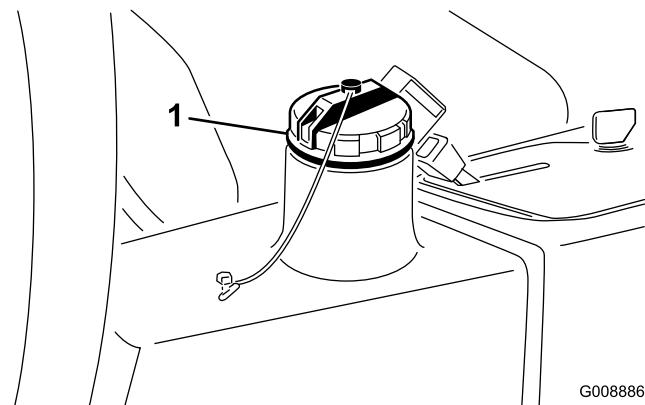

Figure 37
2. Clean the area around the filler neck and cap of the hydraulic fluid tank (Figure 37) and remove the cap.